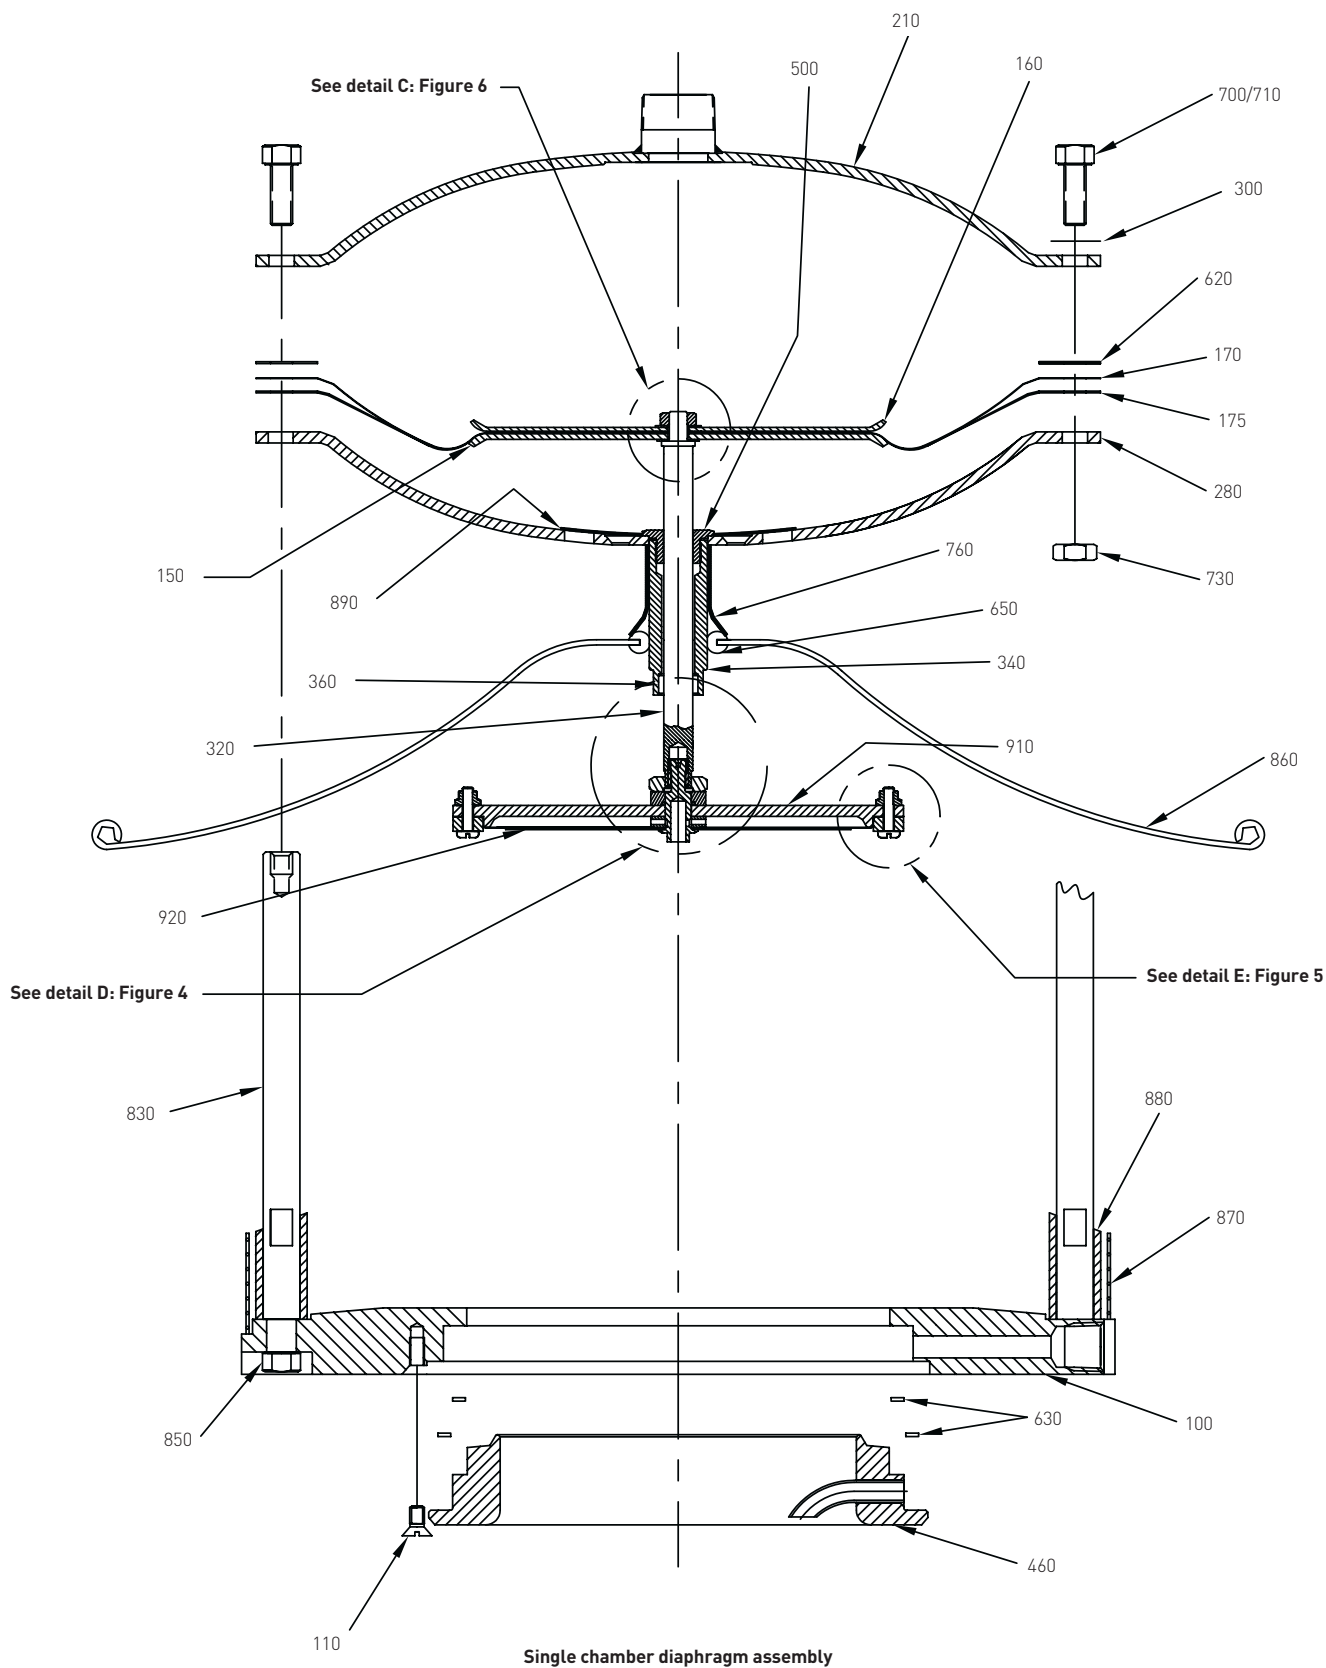

FIGURE 2
2.3.2 All single chamber diaphragm Series 9290P (Refer to Figure 2)
- Remove the upper main diaphragm case (220).
- Remove the main diaphragm assembly, lower main diaphragm case (280) and seat plate assembly from the base (100).
2.4 Nozzle replacement (Refer to Figure 2 or 3)
- Remove nozzle retaining screws (110) and gently tap nozzle (460) with soft face mallet.
Note: refer to Figures 2, 4, 5